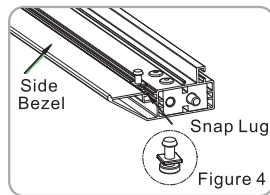
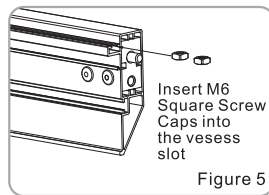

Figure 4
Figure 5
Note: The nuts should be inserted into the horizontal bezel according to the number of mounting brackets before joining the horizontal and side bezels together (please see figure 5).
2. Insert the Snap Lugs into the recess slots (as shown in figure 4); and insert the M6 Square Screw Caps into another recess slot (as shown in figure 5); (Please skip this step if this is a Spring-Hook Screen).